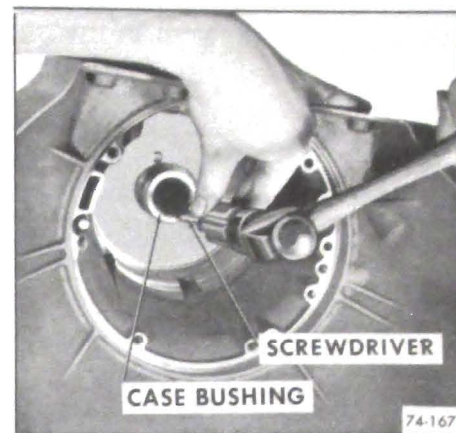

Figure 74-167
1. Inspect case bushing for nicks, scoring or excessive wear. If damaged, remove as follows: Place screwdriver in notch in case, then tap screwdriver with hammer to collapse bushing. Remove bushing. See Figure 74-167.